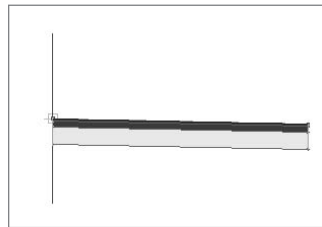

Figure A.68
8. Note that the command line states **Select marker point within assembly or [RETURN for Detached]**. Click the assembly on the right side of the center point marker to place a 15'-wide lane on the right side of the assembly, as shown in Figure A.68.